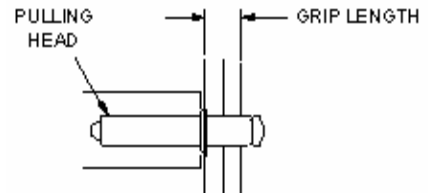

Figure 3. Pulling Head on Rivet.
5. Insert rivet in hole. Make sure sheets are held tightly together before upsetting or pulling rivet. Refer to Figure 3 for this step.
6. Select proper pulling head for rivet being installed and install pulling head on rivet gun. Refer to Figure 3 for this step.
7. Insert stem of rivet into pulling head. Refer to Figure 3 for this step.